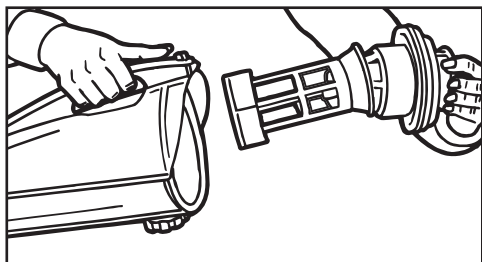

Fig.3/16
3. Pull the filter assembly up and out of Clean/dirty water tank. Fig 3/16.